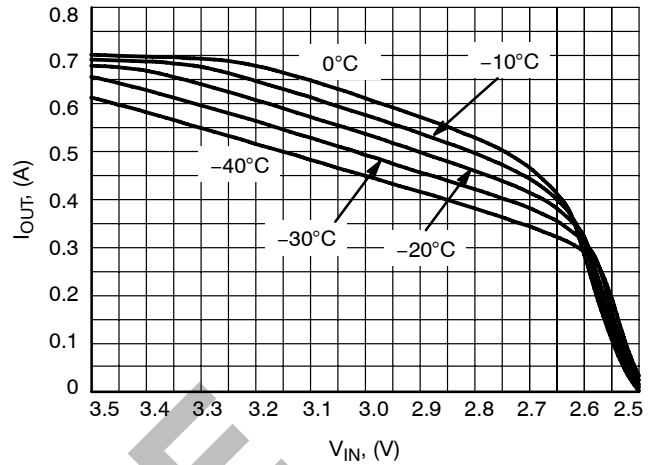

Figure 8. Output Current Capability for the 2.5 V Version
1. For proper operation below  $T_J = 0^\circ\text{C}$ , please refer to Figure 8.